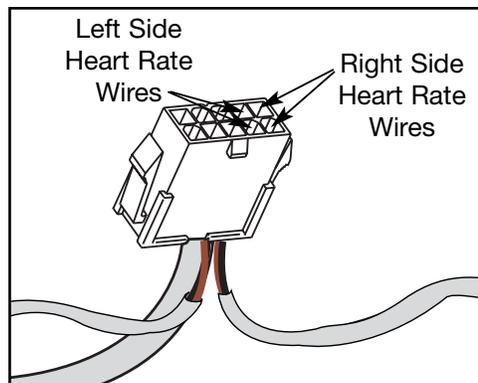

Figure 32
- B. Locate the new contact heart rate cables connected to the lower display cable. The right side cables are located in the outermost locations in the lower display cable connector. See Figure 32.